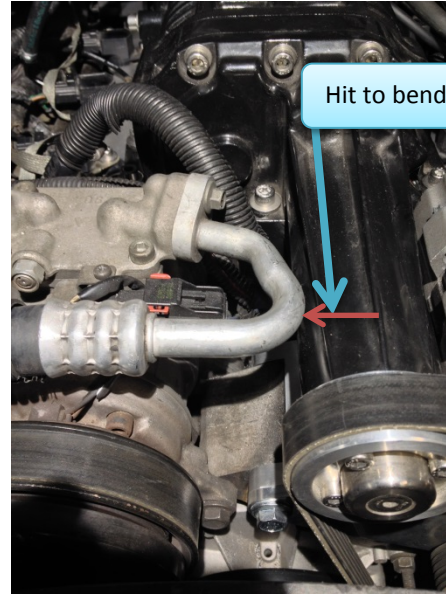

Figure 35: AC line may interfere.
33. Attach intake tube to supercharger (Intake matches non-EGR one shown in Figure 35)